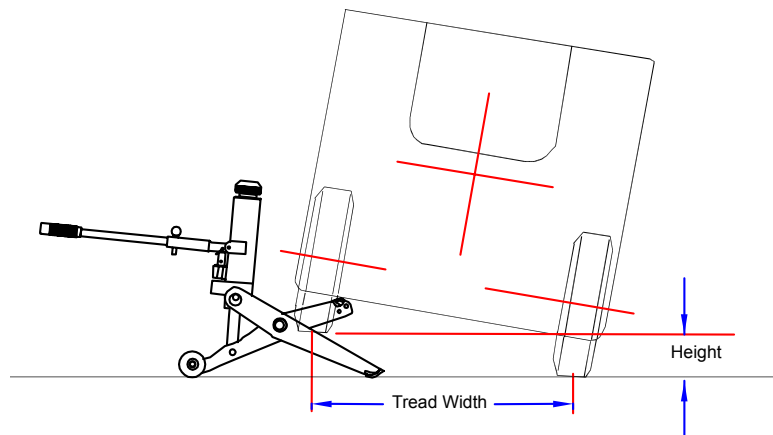

Figure 4
- Make sure at least two wheels of the forklift remain in contact with the floor at all times. **NEVER** raise a 3-wheeled forklift from the 2-wheeled end or from the side. **NEVER** use the jack to raise all four wheels of the forklift from the floor. **NEVER** raise the forklift higher than 1/4 its tread width (see Figure 4).
- The jack's front footpad and rear wheels must ALWAYS remain in direct contact with the floor (see Figure 4).